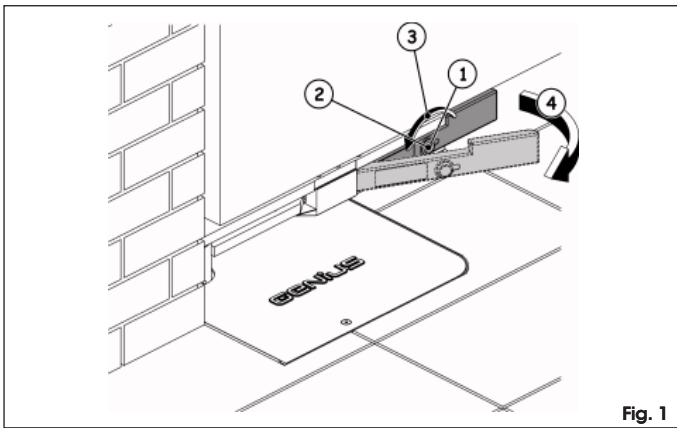

Fig. 1
Should the need arise to operate the gate manually because of a power failure or malfunction, the release device with key fitted on the support bracket (Fig. 1 rif. ⑥) makes it possible to release the system both from the inside and from the outside.
- open the lid of the lock (Fig. 1 rif. ①)
- insert the release key in the lock (Fig. 1 rif. ②)
- turn the key in the direction of the post, as far as it will go (Fig. 1 rif. ③)
- pull the lever out (Fig. 1 rif. ④)